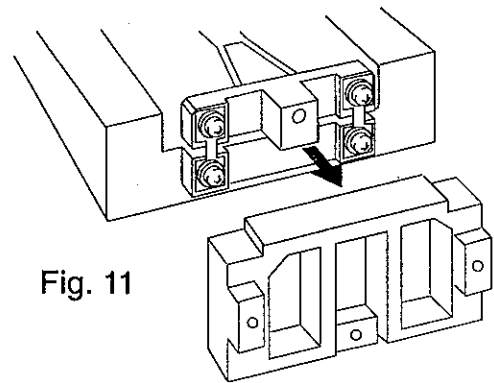

Fig. 11
Step 10. Remove the force motor from the alignment fixture. Then remove the suspension guide from the force motor (Fig 11).